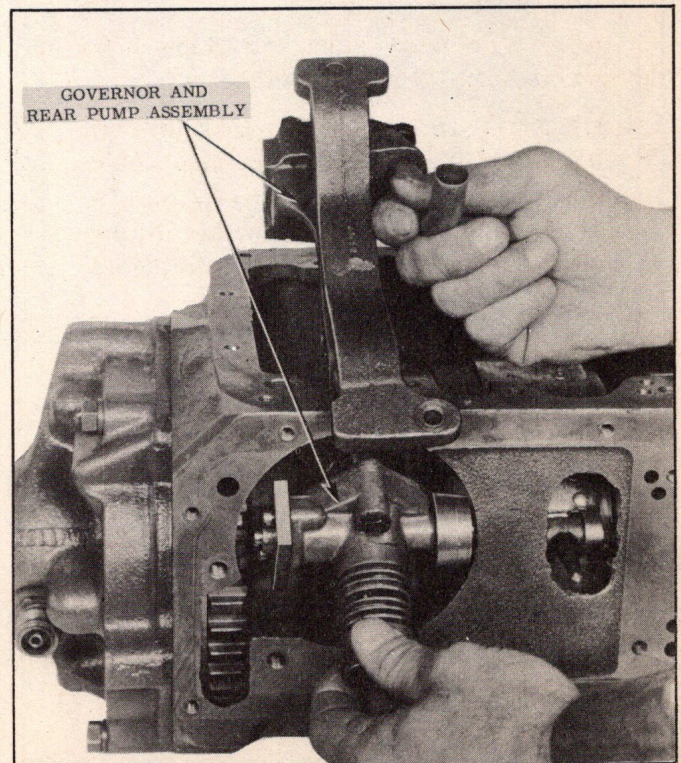

Fig. 301—Positioning Rear Pump and Governor Assembly
3. Slide the pump and governor assembly into position in case (Fig. 301).